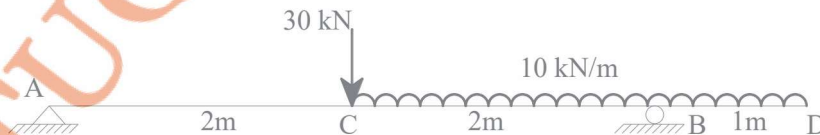

Figure-2
| (c) Determine the support reactions for the beam shown in Figure-2 . Also plot the shear force and bending moment diagrams. | 07 |
- (c) Calculate the maximum bending stress and maximum shear stress at a section for the beam shown in **Figure-2**. Beam cross section is 300mm wide × 500mm deep. 07